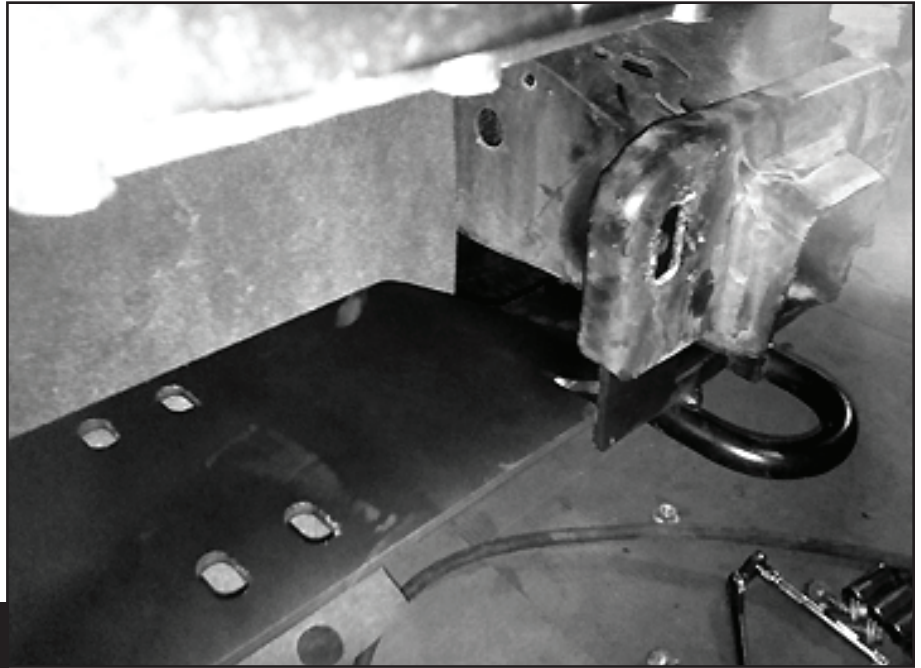

Fig 7
1. Align the winchplate on the underside of the frame and the backside of the frame. It's easiest to use a ½" bolt and nut to hold the plate in position. Now reattach the factory tow hooks, using the factory hardware. The tow hooks will sandwich the winchplate between them and the frame. Tighten bolts only snug enough to still allow the winchplate to move front to rear. If you used the ½" to hold the winchplate in position, remove at this time (**Fig 7**).